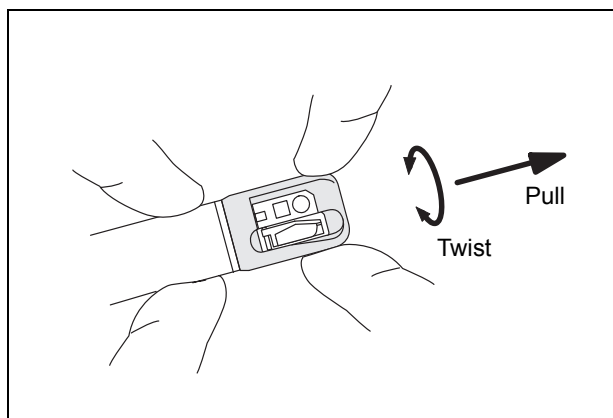

Figure 3.24
10. Pull the distal cover gently and confirm that the distal cover and the distal end of the endoscope do not separate (see Figure 3.24).
11. Twist the distal cover gently in both directions and confirm that the distal cover and the distal end of endoscope do not separate (see Figure 3.24).